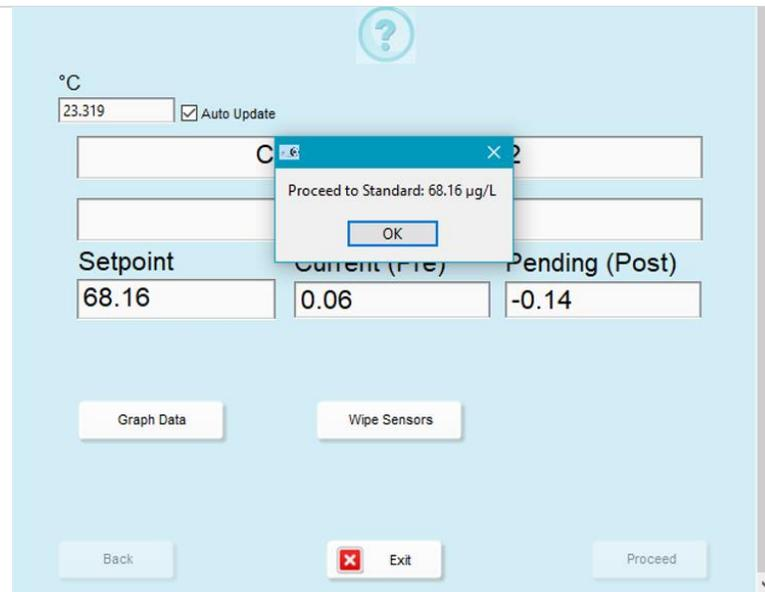

Figure 110. Click "OK" to Proceed to the next Standard
**STEP 6** | In the pop-up window where it states **Proceed to Standard: 68.16 µg/L**, click “**OK**” after triple rinsing the sensor and placing the calibration solution in the calibration cup (Figure 110).